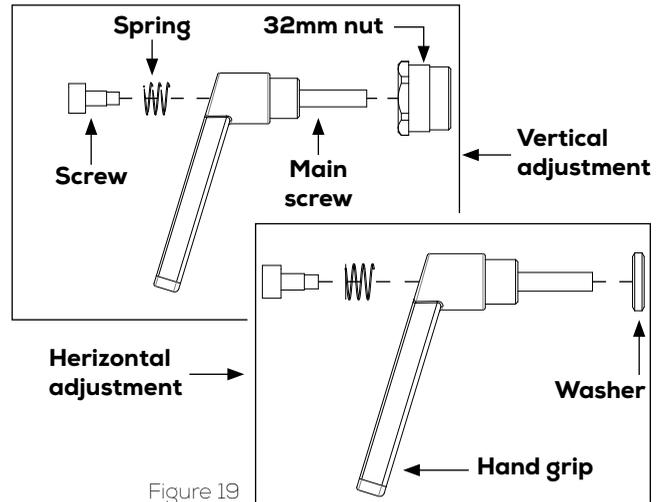

Figure 19
1) Remove the adjustment handle and disassemble the handle completely into a screw, a spring, a handlegrip, a main screw and a brass washer, see figure 19. Do this with both the horizontal and vertical adjustment handle.